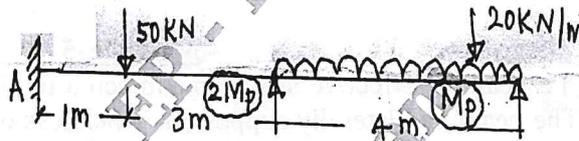

Fig Q2(b)
b. Analyze the continuous beam ABC shown in Fig Q2(b) and calculate maximum plastic moment. Consider load factor as 1.5.